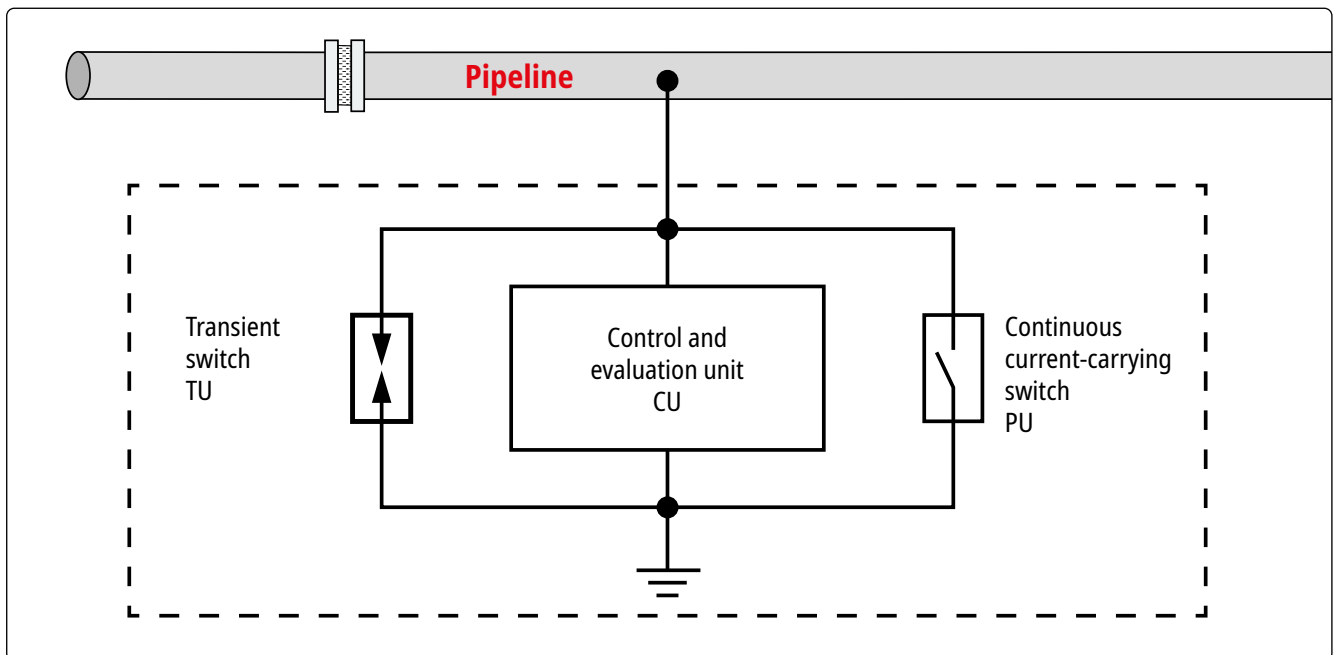
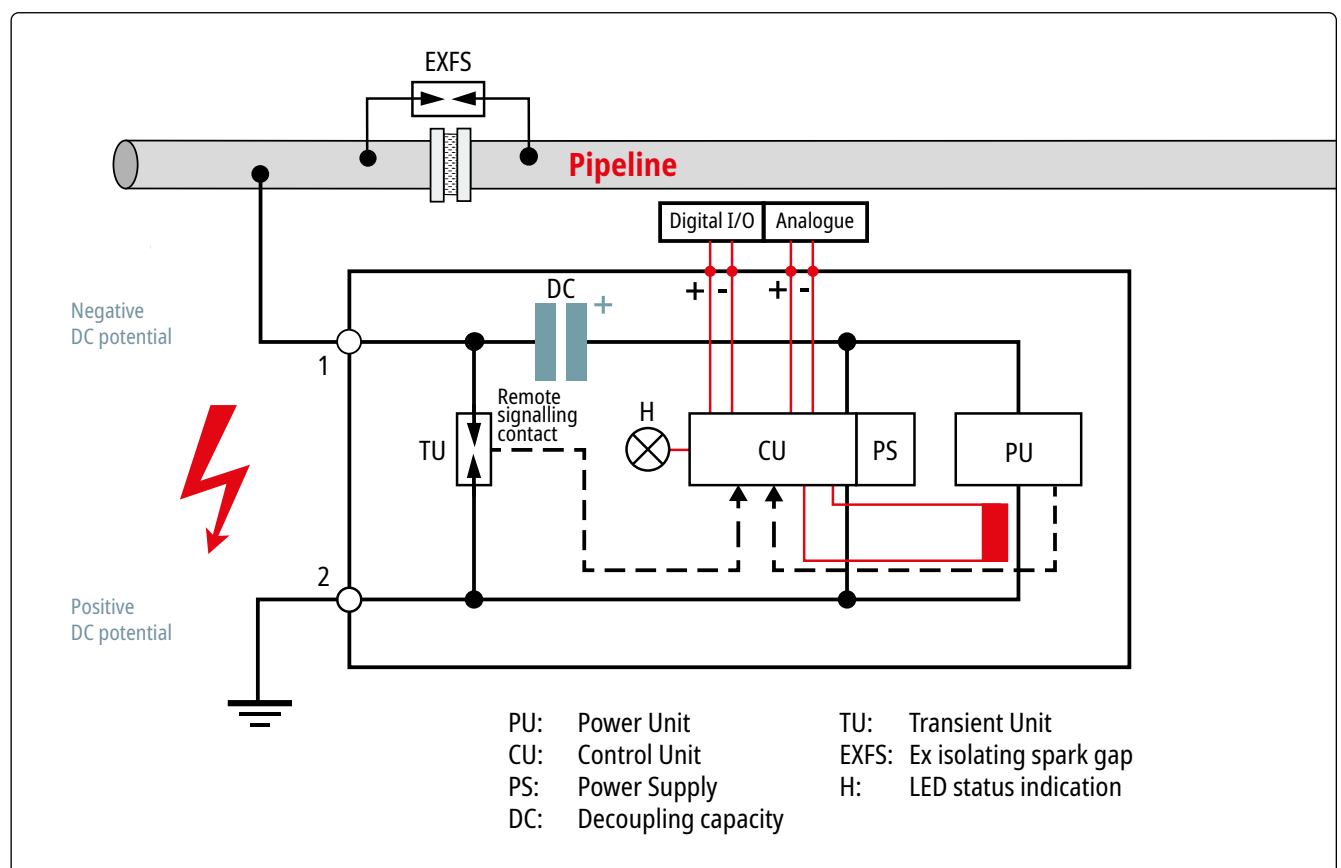

Figure 2 Functional groups
Figure 3 Functional units
The voltage decoupling device type **VCSD** – **V**oltage-**c**ontrolled **s**mart **d**ecoupling device is used in widely distributed and highly networked electric systems which are influenced by external voltages from various sources of interference (e.g. high-voltage systems, traction power supply systems, low-voltage systems, lightning interference) (see also Fig. 2 and Fig. 3, page 6).
The evaluation circuitry (CU) evaluates different sensor signals, thus coordinating the interaction of the individual functional units (see Fig. 3).